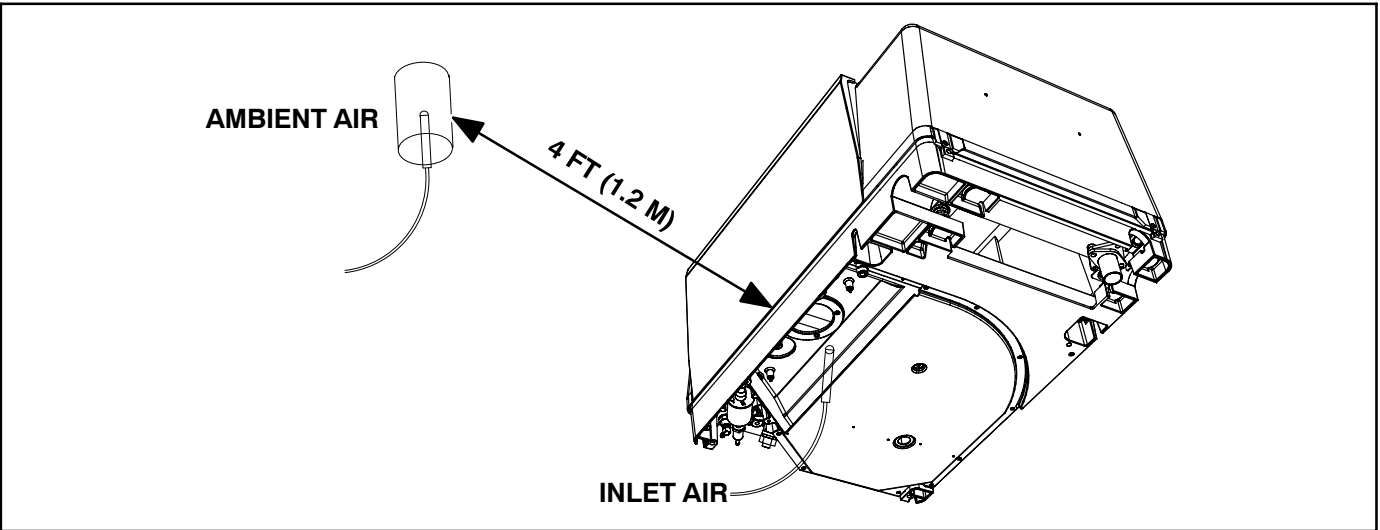

FIGURE 8-1. THERMOCOUPLE LOCATIONS FOR HOT AIR RECIRCULATION TEST
- A. Measure genset inlet air temperature with one thermocouple tied in the middle of the inlet air grille (Figure 8-1).